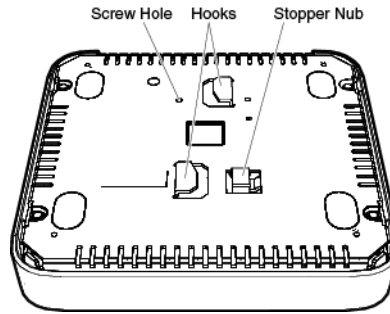

Figure 7. Bottom of Access Point
2. Place the bracket against the bottom of the access point and use the bracket to push downward on the stopper nub (see Figure 7).